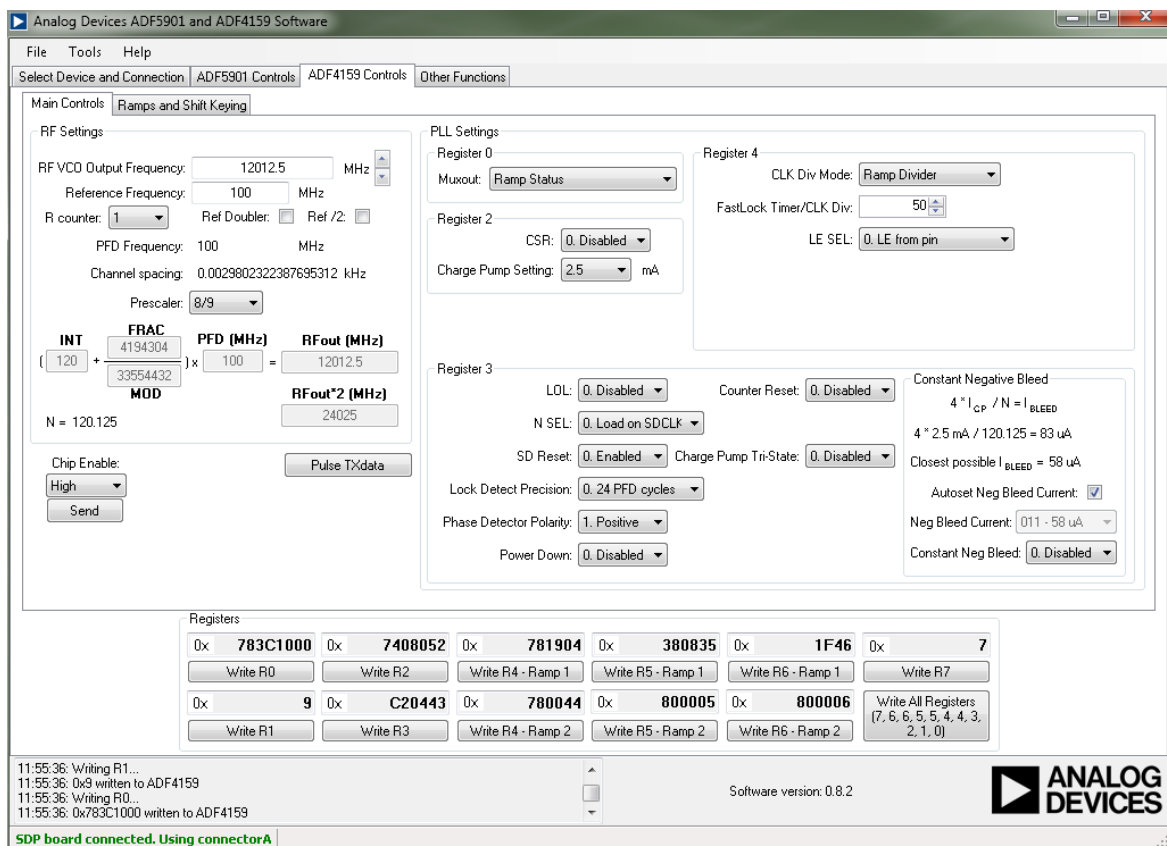

Figure 4. Software Front Panel Display—**ADF4159 Controls**
9. Click the ADF5901 Controls tab and click **Write All Registers** (see Figure 4).
To control the **ADF4159** settings (see Figure 4), select the **ADF4159 Controls** tab.
Click the button under each register value within the **Main Controls** tab to write that value to the device. The register values are shown in Figure 4 at the bottom of the window. When the background of a register value is green, this indicates that the value was changed and needs to be written to the device.